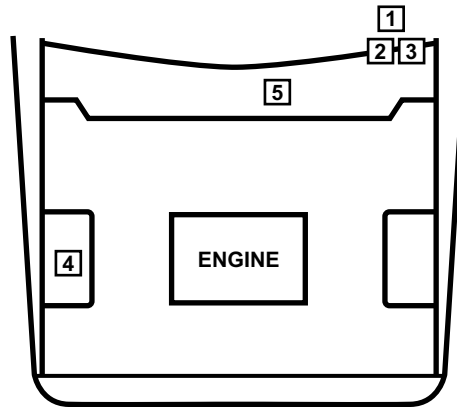

Figure 15-1 Carbureted engine common connector locations
- “Carbureted engine common connector locations” on page 144 (Table 15-1, Figure 15-1)